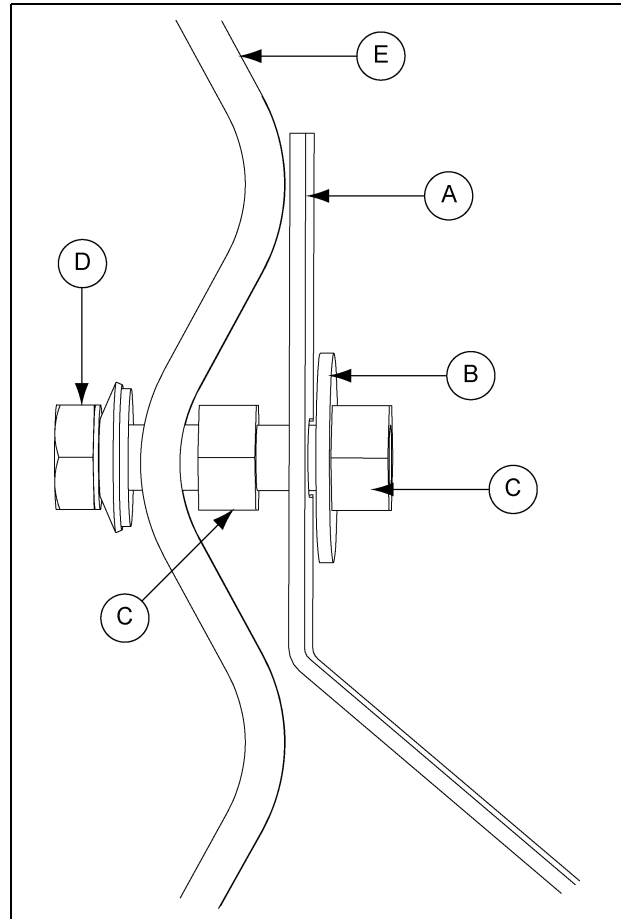
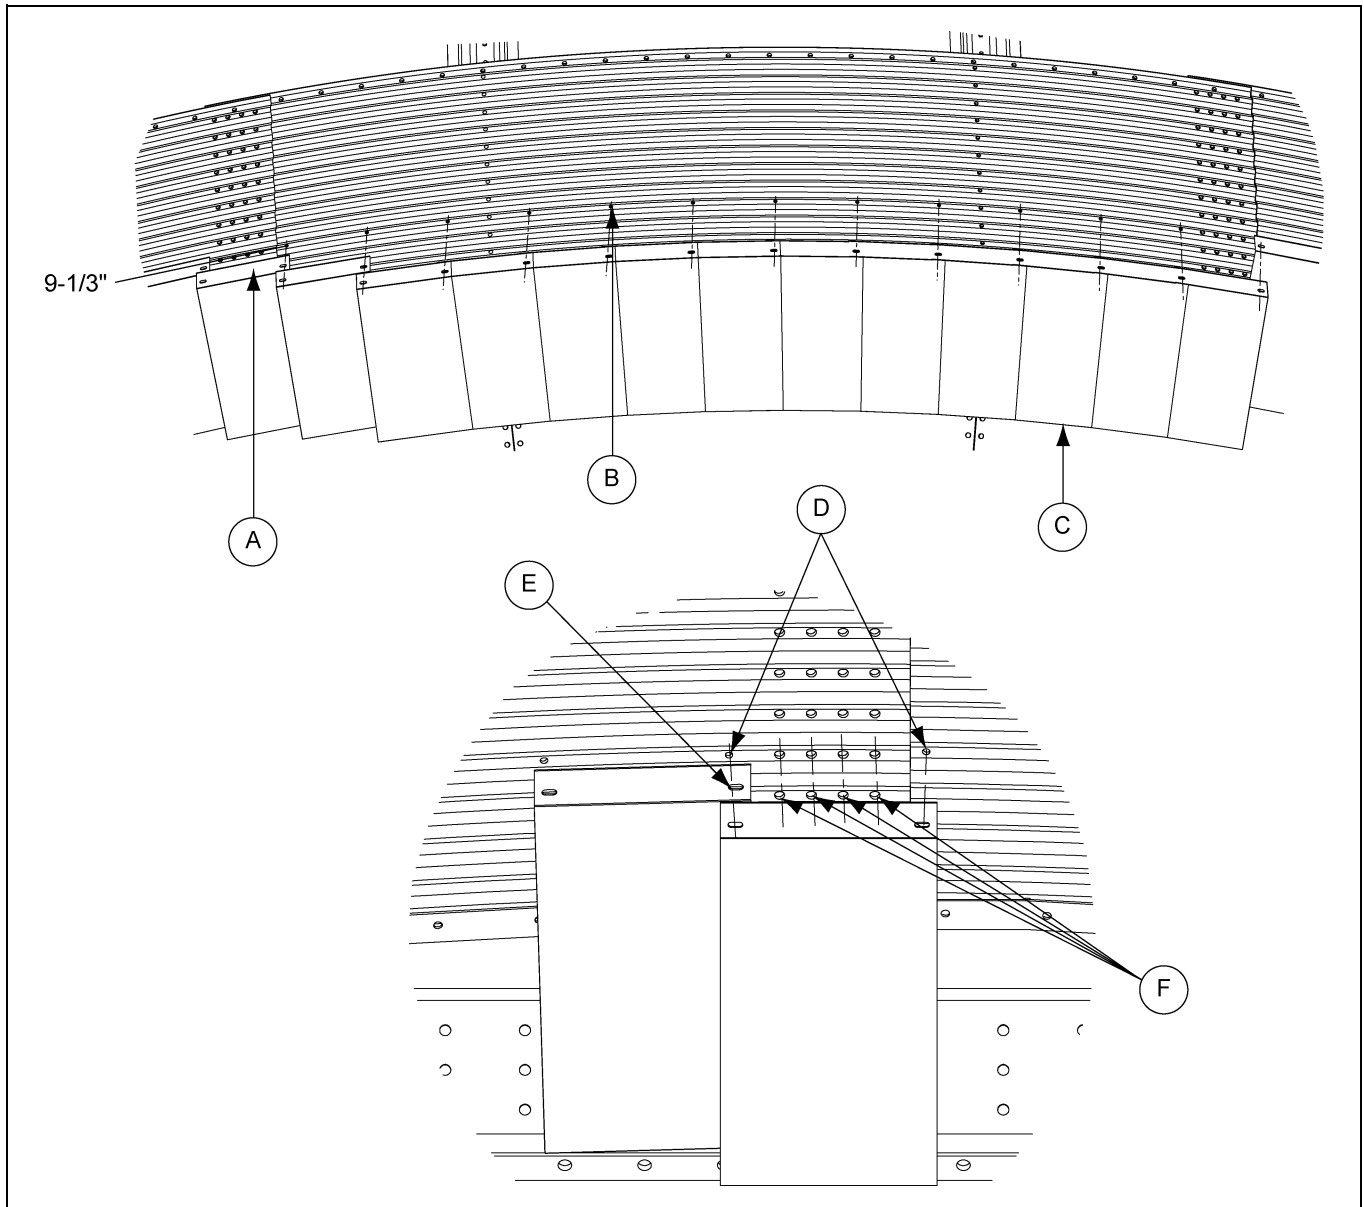

Figure 19B Vertical Seam Flashing Hardware
Figure 19C
3. At vertical seams attach flashing that is to span the vertical seams using both left and right holes. Drill flashing holes from the outside of the bin through the sidewall sheet holes. Remove drilled flashing and assemble vertical seam bolts and nuts. (See Figure 19C on Page 65.) Replace drilled flashing and attach according to Figure 19B. Continue around the bin clockwise.